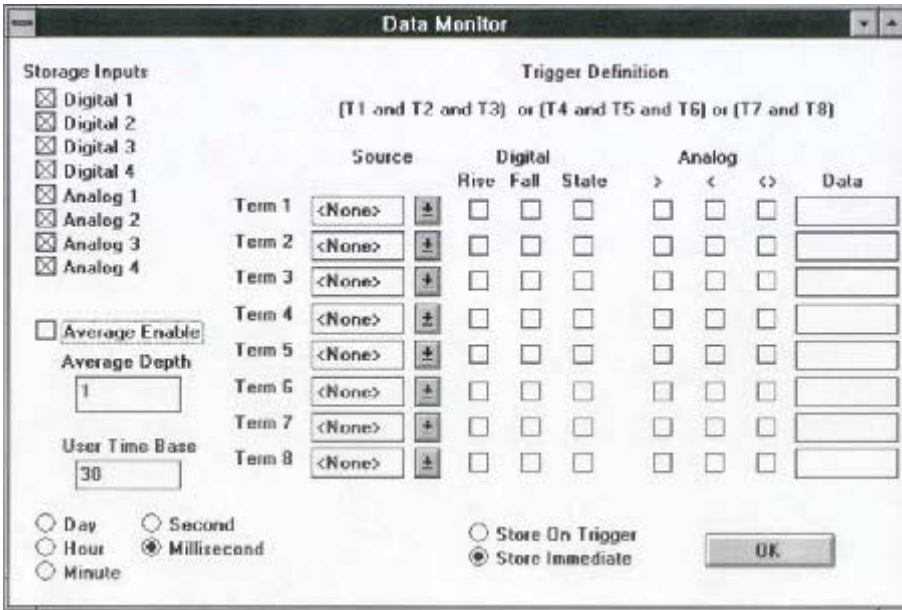

Figure B-3: Test setup screen
- ↩ Select the Configure -> Setup pull-down menu pick, and configure the data monitor to record all of the digital and analog inputs. You can leave all the other options at their default. The data monitor will default to store immediate with 30 milliseconds between samples. The Setup screen should look like the screen shown in Figure B-3.